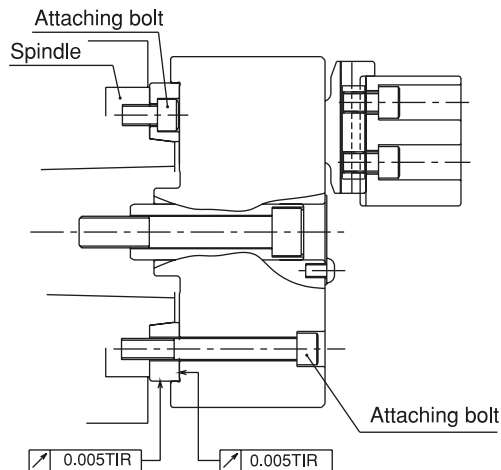

Fig. 18
- Fig.18 shows the case of the JIS short taper standard.